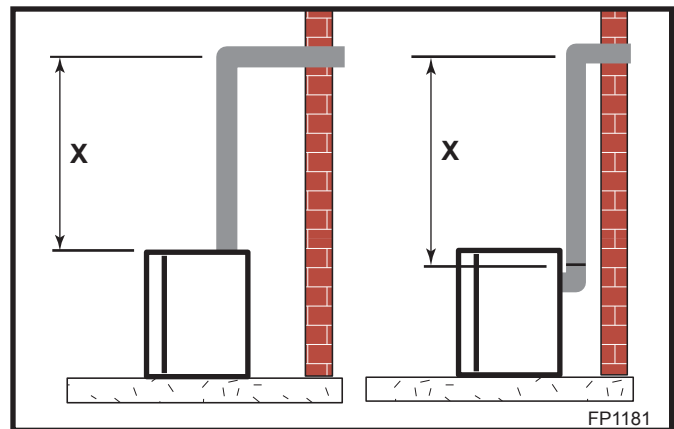

Fig. 35 Vertical height requirements.
Place fireplace into position. Measure the vertical height (X) required from the base of the flue collars to the center of the wall opening. (Fig. 35)